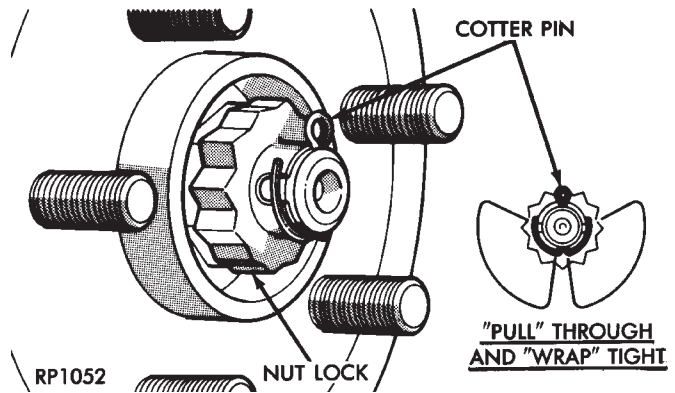

Fig. 29 Installing Spring Washer, Nut Lock And Cotter Pin
(13) Install the spring washer, hub nut lock, and new cotter pin. Wrap cotter pin prongs tightly around the hub nut lock (Fig. 29).